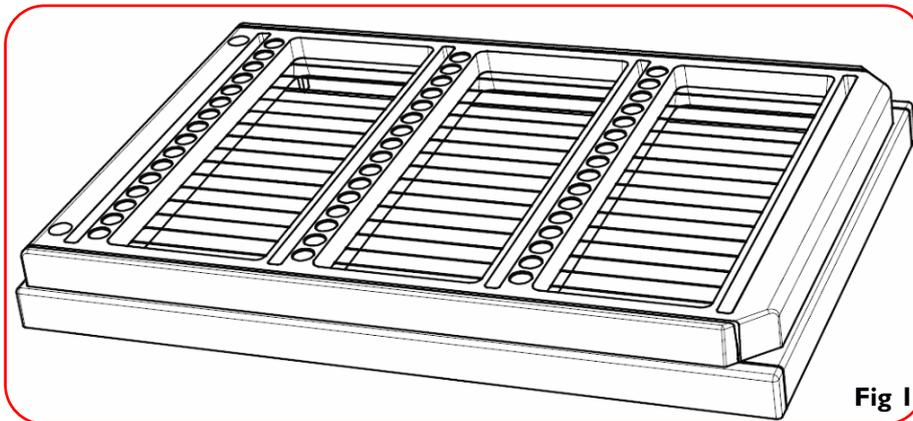

Figure 1
1. Remove the plate carefully from the box. Remove the protective cover and place the plate in the orientation as per **Figure 1** with the cut corners to the right hand side.